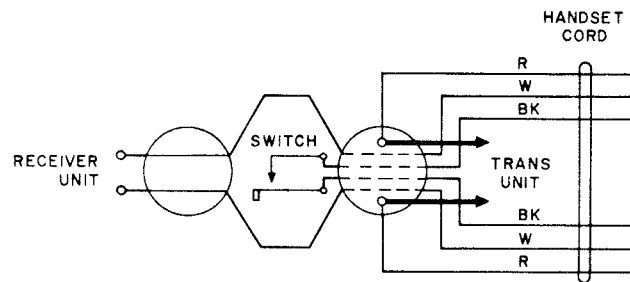

Fig. 19—G5BR, G5KR, and G5PR Handsets
**4.01** Fig. 7 through Fig. 19 show internal connections for the G-series handsets. See Tables A, B, and C for types of receiver and transmitter units.